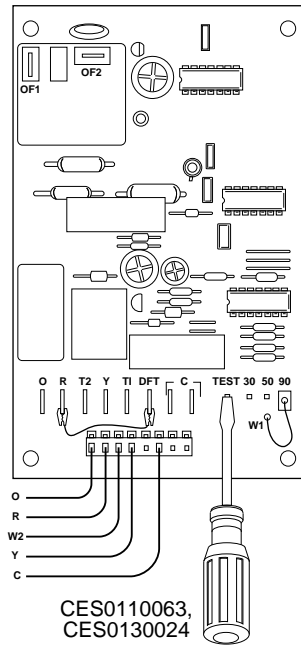

Fig. 15—Defrost Control
2. Disconnect outdoor fan motor lead from OF2 on control board. (See Fig. 15.) Tape lead to prevent grounding.
5. Short between speed-up terminals with a flat-bladed screwdriver. (See Fig. 15.) This reduces the timing sequence to 1/256th of original time. (See Table 3.)
8. Turn off power to outdoor unit and reconnect fan motor lead to OF2 on control board. (See Fig. 15.)